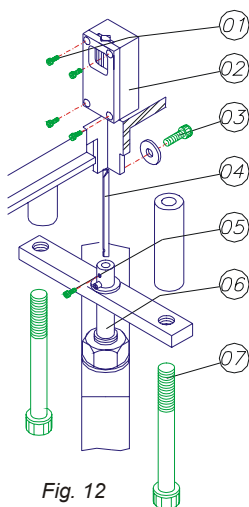

Fig. 12
- 3) **Replacing the nail driver rod** - If the drive rod (Fig. 12 Part 04) breaks, replace it by following the following procedure:
Remove bolt (Fig. 12 part 03), and pull the assembly head up through the top of the table. Then remove the head screws (Fig. 12 part 01) and pull out the drive rod (Fig. 12 Part 04). Place the new one in the head, with the hole at the bottom to receive bolt (Fig. 12 Part 03). Put a drop of sewing machine oil on the drive rod before reassembling. After reassembling, make sure the drive rod moves freely up and down. When putting the head back on the machine, be sure it is level with the top of the table, and that the drive rod continues to move freely. You may do this by operating without wedges, and with the pressure pad rotated off to one side. **Keep hands away from pad!**